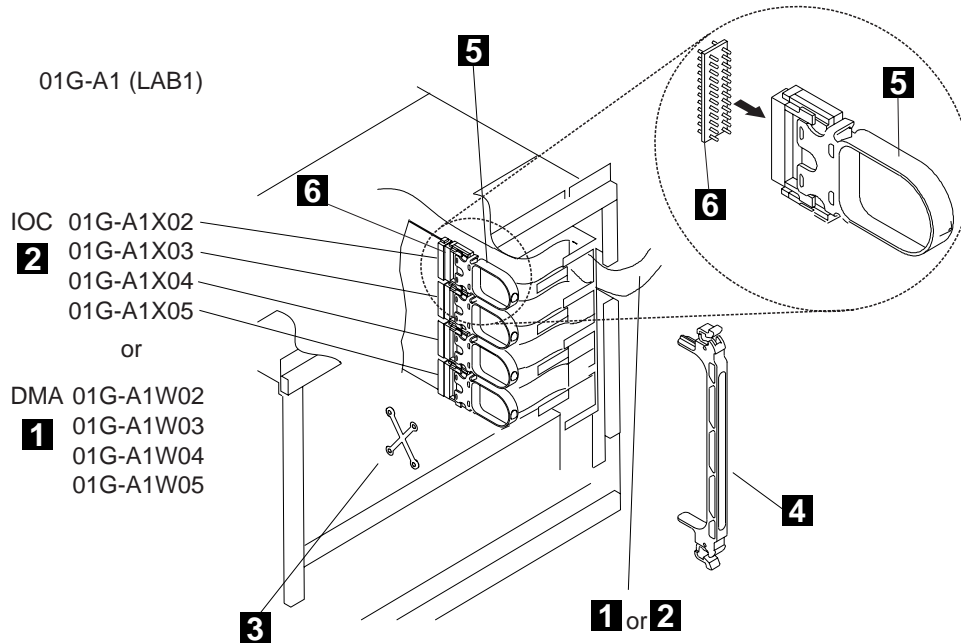

Figure 4-40. Plugging of the DMA and IOC Cables in LAB1
- Step 12. \_\_\_\_ Install short retainers **5** (PN 1953188) and four interposers **6** on the IOC bus cables removed from 01G-A1 X02, X03, X04, and X05. Make sure the interposers are seated completely flush with the connectors on the cables as it takes considerable pressure to seat them properly (see Figure 4-40).
- Step 19. \_\_\_\_ Clamp cables in raceways using retainers **3** (PN 0813519) see Figure 4-40.
- Step 20. \_\_\_\_ Secure the cable extenders using an intermix bracket **4** (PN 1953110) see Figure 4-40.